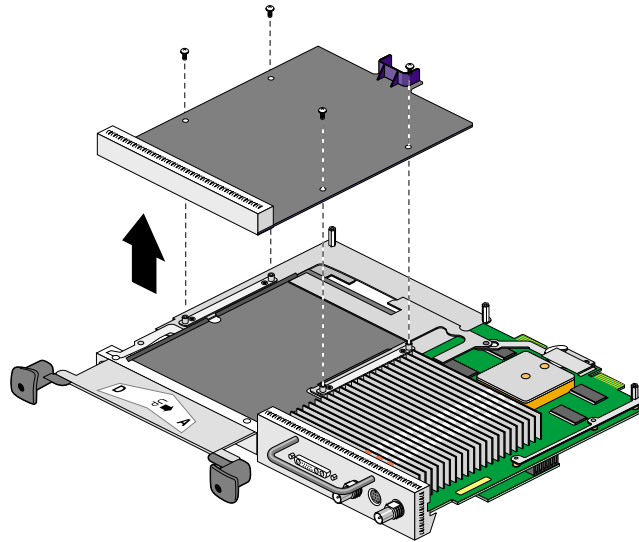

Figure 2-12 Removing the Blank Panel
2. Grasp the blank panel or option board on the front and on the side of the board that has no connectors, and lift it, as shown in Figure 2-12.